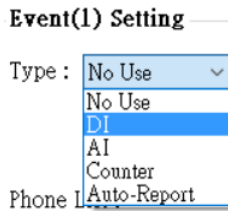
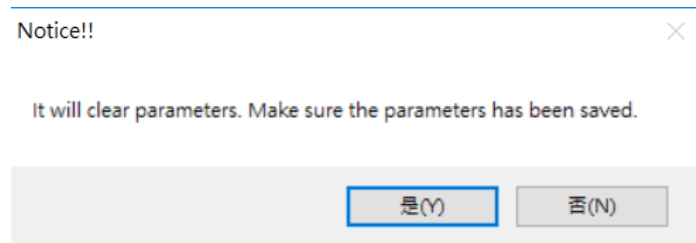

Figure 5.10.6
Figure 5.10.7
E. Select “DI” in Type as shown in Figure 5.10.6. After selecting, it will pop up the attention window and select “Yes” as shown in Figure 5.10.7